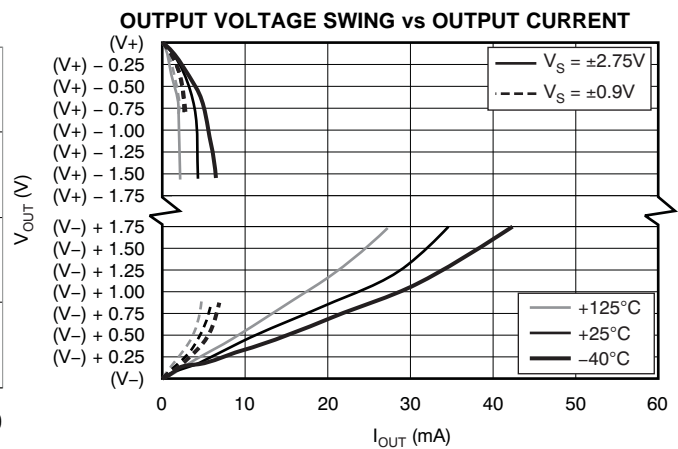

Figure 31.
(8) Does not include effects of external resistor  $R_G$ .
(9) See Typical Characteristics curve, *Output Voltage Swing vs Output Current* (Figure 31).
The INA333 can be used on single power supplies of +1.8 V to +5.5 V. Figure 37 illustrates a basic single-supply circuit. The output REF terminal is connected to mid-supply. Zero differential input voltage demands an output voltage of mid-supply. Actual output voltage swing is limited to approximately 50 mV above ground, when the load is referred to ground as shown. The typical characteristic curve *Output Voltage Swing vs Output Current* (Figure 31) shows how the output voltage swing varies with output current.